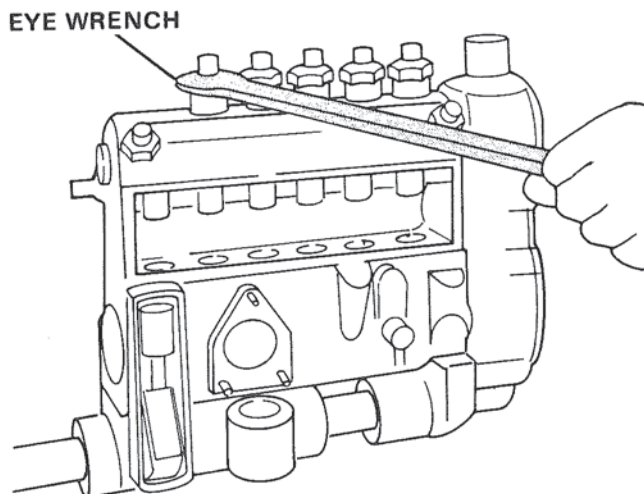

Figure 31. Removing Delivery Valve Holders.
- B. Remove holders, using eye wrench, Special Tool No. 95905-01002. Figure 31.